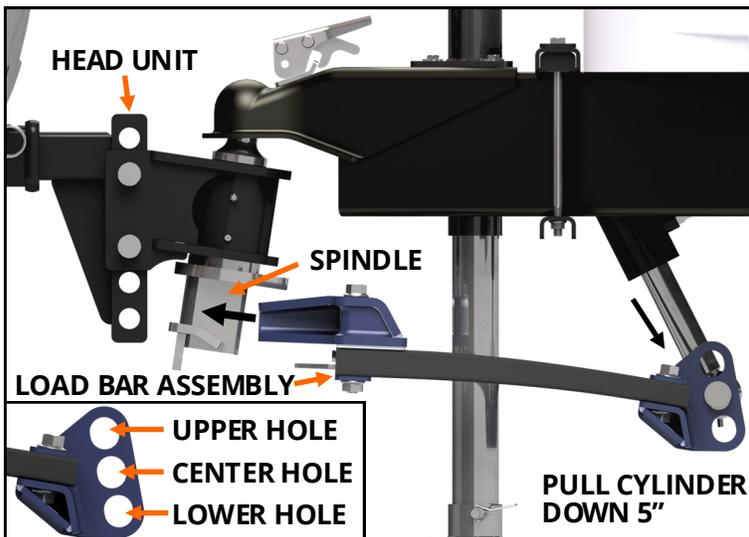

FIGURE F2: View of the driver side of the hitch.
3. **Attach the load bar assembly to the spindle.** Fully open the needle valve on the hydraulic pump. Push down on the lower cylinder mount to extend the hydraulic cylinder until it is fully extended with about 5" of chrome rod showing. Lift the load bar assembly and slide it into the bottom of the spindle of the head unit until the latch pin of the forks engages with the spindle, see **Figure F2**. If the forks do not slide into the spindle far enough to engage the latch pin, then use the upper hole in the lower cylinder mount, see **Figure F2**. If the forks will still not slide into the spindle after trying a different mounting hole, call B&W Customer Service Department for support.